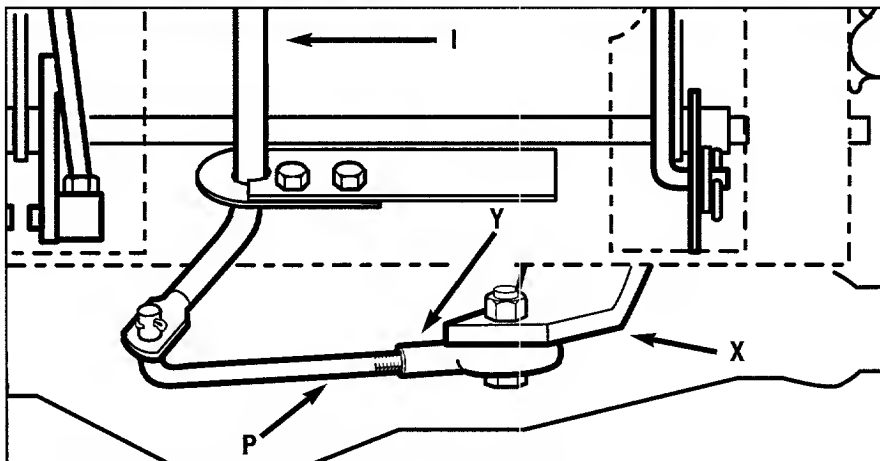

Figure 5-15: Transmission neutral (N) adjustment.
4. Remove cotter pin securing shift link (P, Figure 5-15) to shift rod (I).
5. Move shift arm (X) back and forth as necessary into each detent until transmission is in neutral. **NOTE:** Moving shift arm (X) clockwise all the way to the left, and then one notch back counter-clockwise, should put transmission